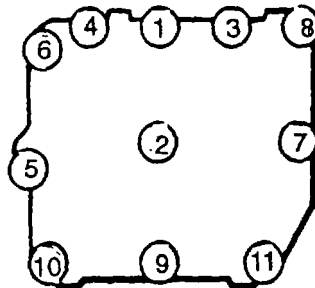

FIGURE 3-16. Crankcase Door Fastener Tightening Sequence
- c. Position new gasket (8) and crankcase door (7) on crankcase and secure with seven bolts (3), two nuts (5) and two standoff studs (6) with eleven washers (4). Tighten bolts (3) to 78 in-lbs (8.8 Nm) in sequence shown in FIGURE 3-16.